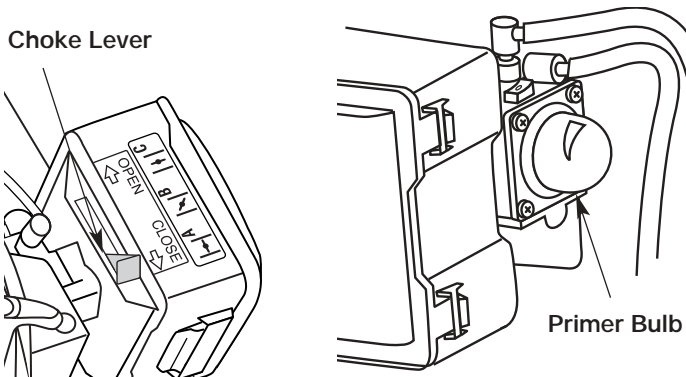

Fig. 11
4. Place the choke lever in the **FULL** choke (A)  position (Fig. 11).
**NOTE:** Slide the choke lever directly above the appropriate symbol on air filter cover decal (Fig. 11).
5. Fully press and release the primer bulb 7 times, slowly. You should feel and see gasoline in the bulb (Fig. 11). If gasoline has not entered the bulb, press three more times or until it does.
7. While squeezing the throttle control to the wide open (full throttle) position (with the choke lever in the **FULL** choke (A) |←| position), grasp the starter rope grip with your left hand and pull the starter rope briskly 5 times. If the engine attempts to run before the fifth pull, proceed to step 8.
8. Move the choke lever to the **PARTIAL** (B) |↖| position (Fig. 11).
**NOTE:** The engine will not operate in the **FULL** choke (A) |←| position.
**NOTE:** If the outside temperature is below 40°F (4°C), run the unit at full throttle for 30 seconds to one (1) minute.
10. Move the choke lever to the **RUN** (C) |↑| position and run at full throttle for 30 seconds, and up to one (1) minute in temperatures below 40°F (4°C).
**NOTE:** If the engine does not start using these procedures, repeat steps 5 through 9 using **TWO** (2) pulls in the **FULL** choke (A) |←| position.
2. Move the choke lever to the **PARTIAL** (B) |↖| position (Fig. 11).
3. Fully press and release the primer bulb 7 times, slowly. You should feel and see gasoline in the bulb (Fig. 11). If gasoline has not entered the bulb, press three more times or until it does.